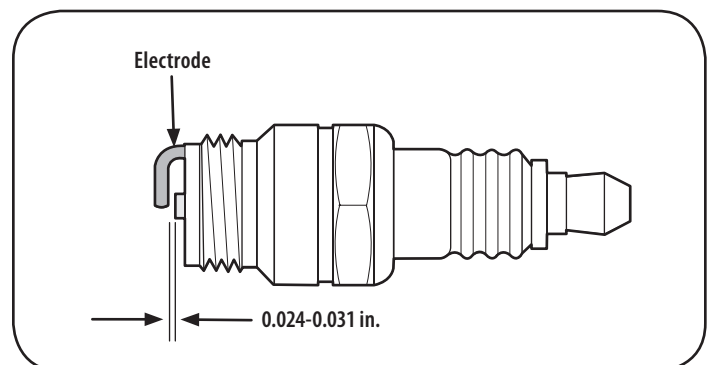

Figure 13
3. Measure the plug gap with a feeler gauge. Correct as necessary by bending side electrode. See "Figure 13". The gap should be set to between 0.024-0.031 in.